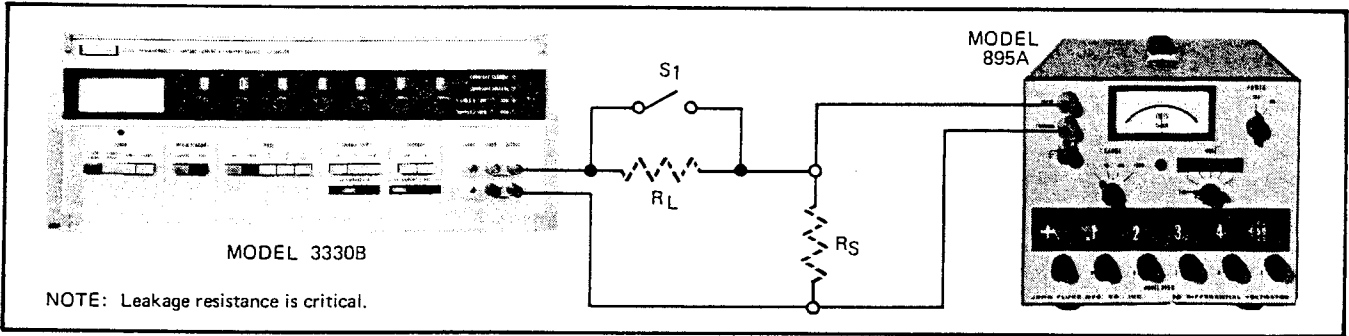

Figure 4-1. MA MODE REGULATION CHECK-EQUIPMENT CONNECTIONS
c. Make the equipment connections shown in Figure 4-1. R_L is 1M, 2W and R_S is a 1K, 0.002W